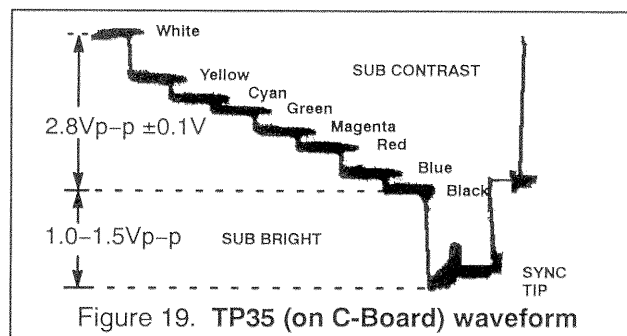

Figure 19. TP35 (on C-Board) waveform
1. In the Serviceman Mode for electronic adjustments, select DAC Sub-Brightness Adjustment (B2) and adjust for 1.0–1.5Vp-p between blanking and 7.5 IRE level so that the black level cannot be compressed. (see video waveforms detail, Figure 19).
2. In the Serviceman Mode for electronic adjustments, select DAC Sub-Contrast Adjustment (B3) and adjust for 2.8Vp-p \pm 0.1V from white level to black level on video waveform (see video waveforms detail, Figure 19).